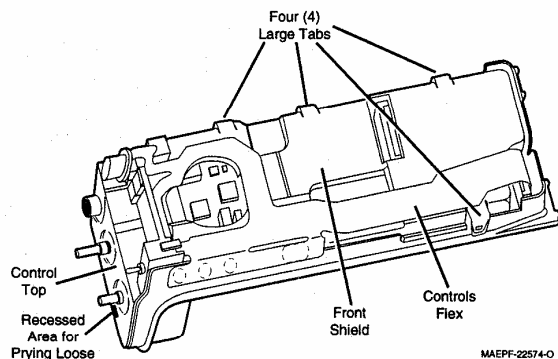

Figure 5
9. As a unit, separate the control top, the front shield, and the controls flex from the chassis and circuit boards (see figure 5).